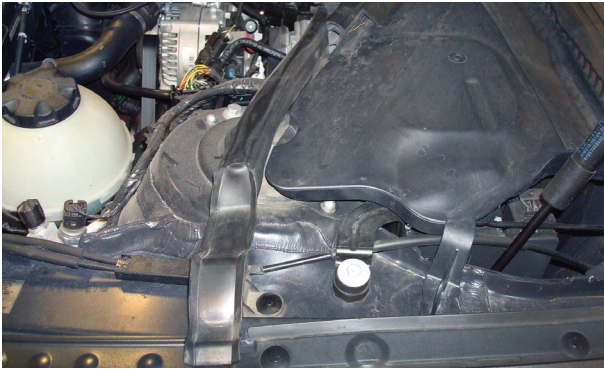

Fig. 14
5. Within the engine compartment, remove the plastic cover (Fig. 14), exposing the support bearing bolts. Remove the strut brace bolt and the support bearing bolts (Figs. 15 & 16).